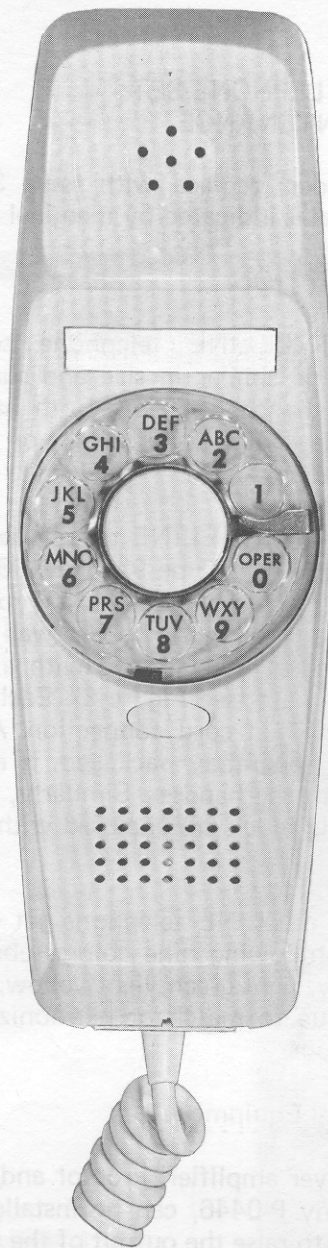
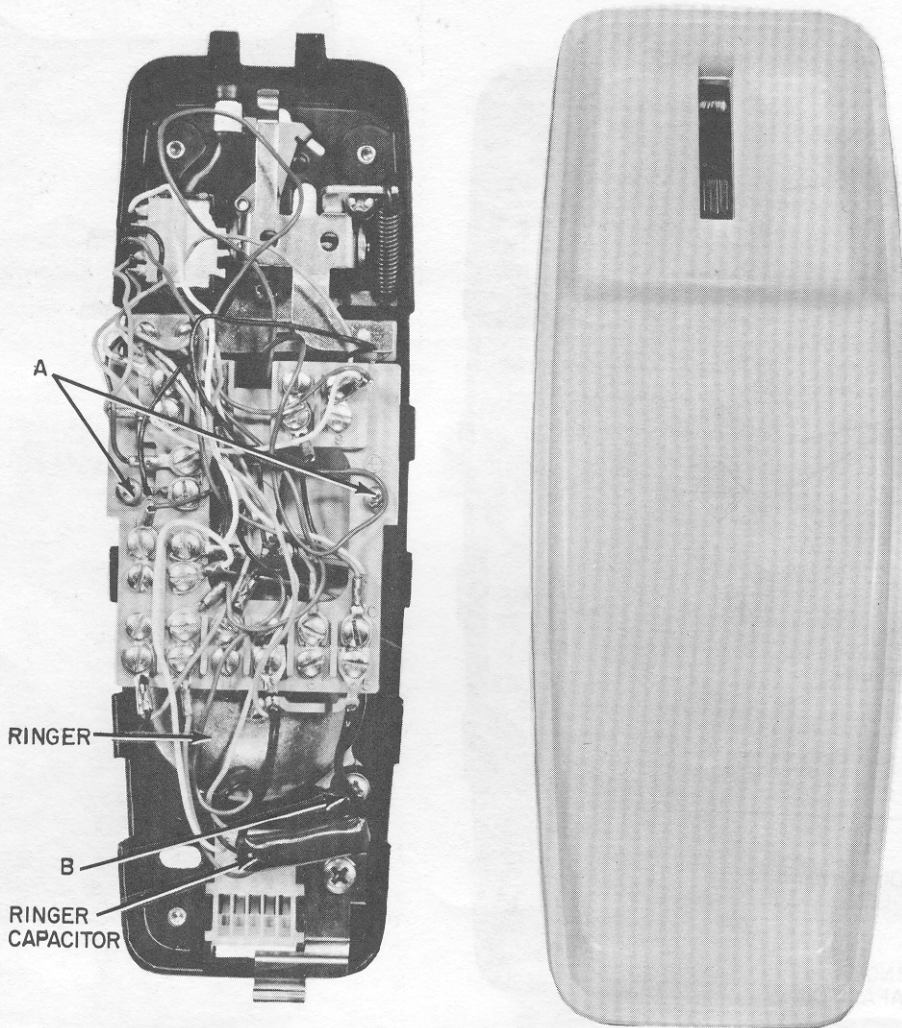
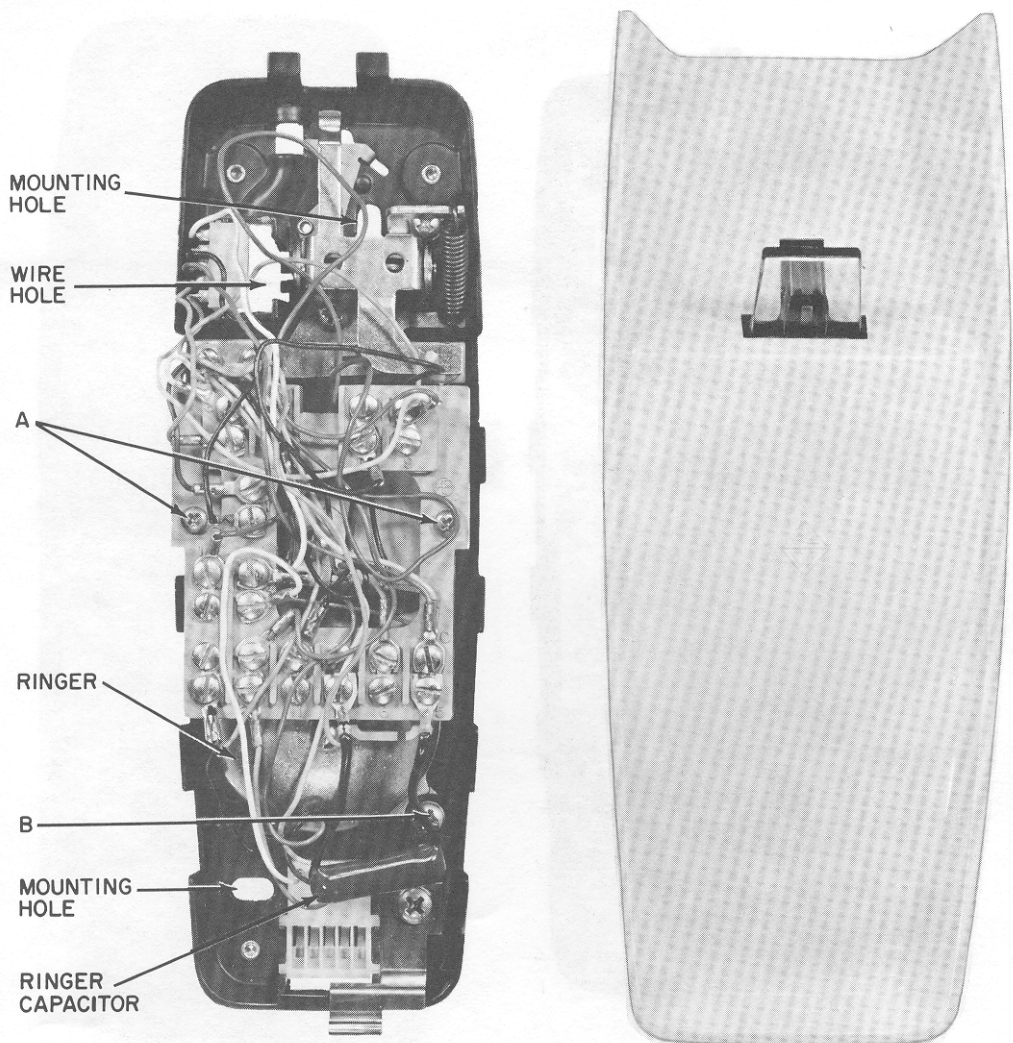

Figure 1. Type 980 Handset.
Figure 2. Type 981 Desk Base and Housing.
Figure 3. Type 982 Wall Base and Housing.
1.01 This section covers the description, installation, and field maintenance of the GTE Automatic Electric Type 980 STYLELINE Telephone Set (Figure 1).
2.02 When the STYLELINE telephone set is used as a desk set, a Type 980 (NC 980) handset (see Figure 1) is combined with a Type 981 (NC 981) desk base (see Figure 2). For wall service the Type 980 handset is combined with a Type 982 (NC 982) wall base (see Figure 3). Each module is arranged for plug-in cord connection. A retractile handset cord, separately packaged, is enclosed in the carton with the handset. Similarly, a line cord and connecting block are enclosed with each desk base.
- (1) After installing concealed line wiring, allow enough slack in the wire to connect to the terminal board.
- (2) Pass the wire through the wire hole in the top left hand side of the base (see Figure 3).
- (3) Mount the base to the wall utilizing the keyhole slot above the hookswitch and the horizontal slot near the handset cord jack (see Figure 3 for mounting holes). Use two number 10 screws.
- (2) Remove the two screws (A, in Figure 2 for Type 981 or in Figure 3 for Type 982), and swing the terminal board over.
- (3) Remove the ringer retaining screws (B, in Figure 2 or 3, as applicable).
- (4) Place the new ringer with grommets in place in its proper location on the base plate aligning mounting holes and secure with the three screws provided.
- (5) Replace the terminal board and screws.
- (6) Replace the housing.